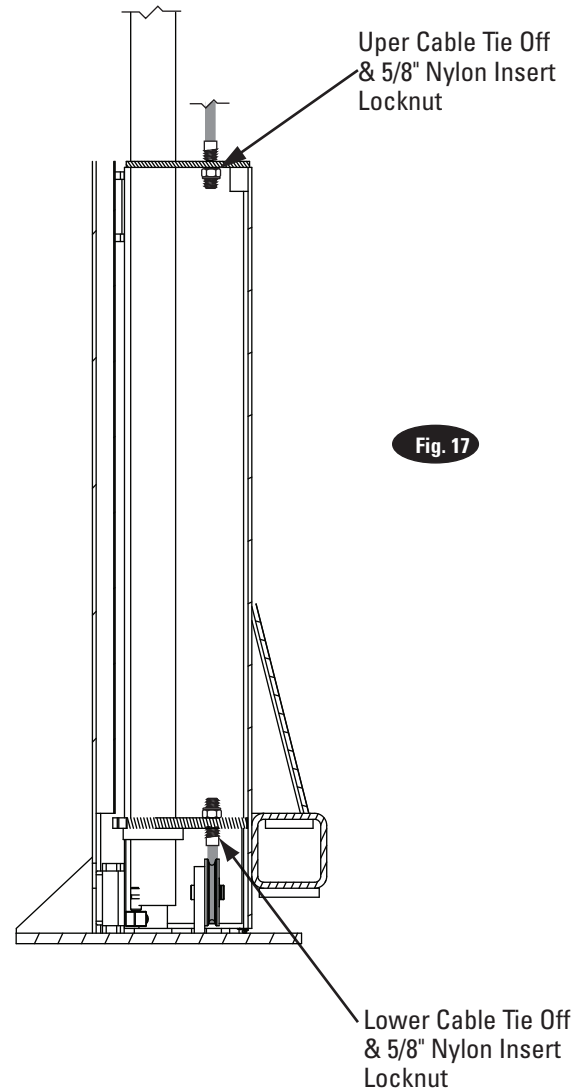

Fig. 17
- B) First, run a cable end up through the small hole in the tie-off plate. Fig. 17.
- E) Pull the cable back down, Fig. 17.
- H) Fasten the cable end to the carriage upper tie-off bracket, Fig. 17. Tighten the locknut enough to